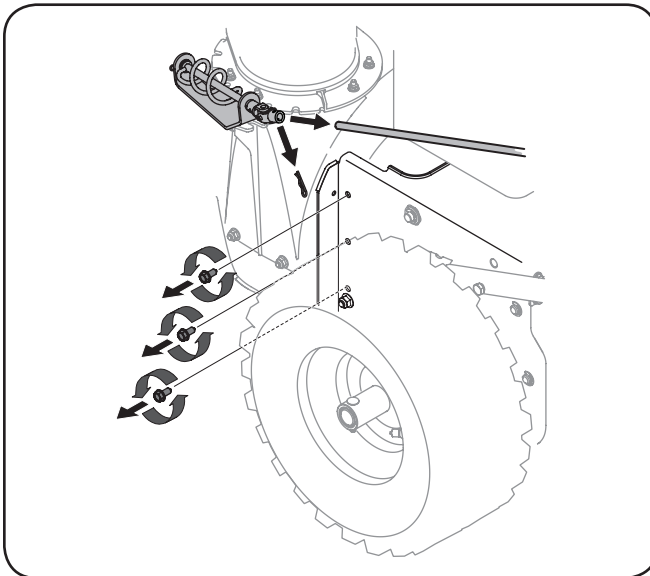

Figure 7-1
1. Remove the chute crank rod from the chute crank assembly by removing the hair pin clip shown in Figure 7-1. Move the chute crank rod away from the assembly as shown.
4. From both sides of the frame assembly, use a 1/2" wrench to remove the three hex tap screws securing the transmission frame to the auger housing assembly. Refer to Figure 7-1. Do not remove the lower hex flange lock nut on each side.